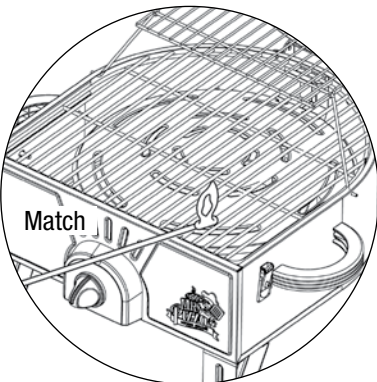

Figure 5
8. If igniter does not light burner, use a long lit match to light burners. Access the burners through the cooking grid and heat plates. Position long lit match near side of burner (Figure 5).